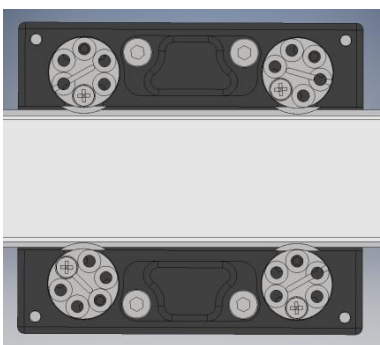

Figure 4: Top loosened 30 & 15
- 4) At this point the carriage may be tight, but it may not be symmetric. If so, you have to make the Bearing Cams in each set 'meet in the middle'. Take the screw out of the tighter one (the one with the slot pointed most outward) and loosen it half the angle between it and the opposite Bearing Cam (Figure 4, upper left Bearing Cam). In the example below, since the top left Bearing Cam was tightened 90° and the bottom left Bearing Cam was tightened 45°, they have a 45° difference. Half of this is 22.5° but since the Bearing Cams can only be incremented by 15°, we round up to 30° and loosen the upper left one that amount.